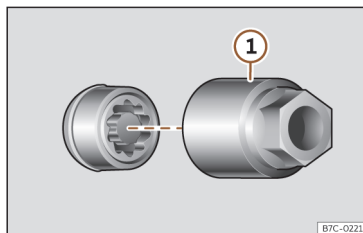

Fig. 225 Anti-theft wheel bolt with cap and adapter.
- Insert the special adapter >>> **Fig. 225 ①** (vehicle tools >>> page 308) onto the anti-theft wheel bolt and push it on as far as it will go.